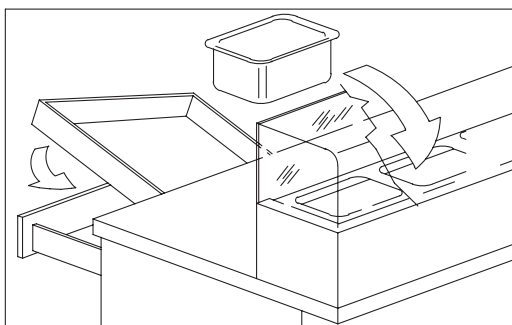

Fig.7.1
12.2 Pizzeria refrigerated tables (Fig. 7.1)